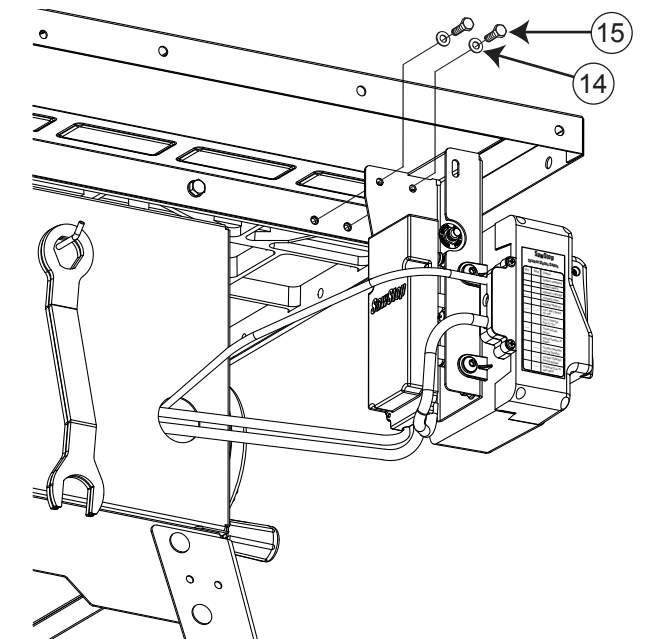

Fig. 22
22. The hardware required to mount the switch box to the cast iron table top is located in the area with the orange background on hardware pack #2. Use two M6 washers and two M6 x 20 hex screws to mount the switch box under the left extension wing (see Fig. 22). Tighten the screws with a 10 mm wrench.